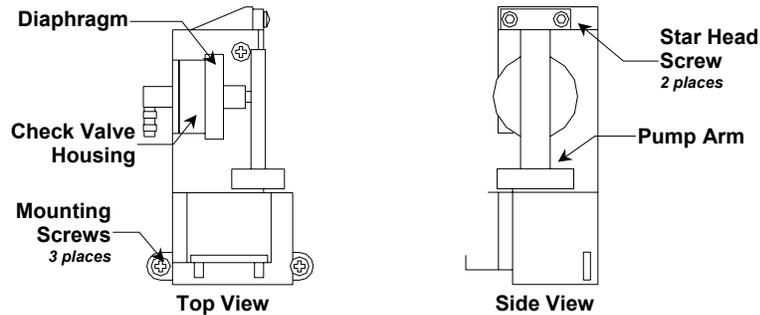

Figure 3: Pump Features
- Remove 2 star head screws and pump arm. See figures 3 and 4.